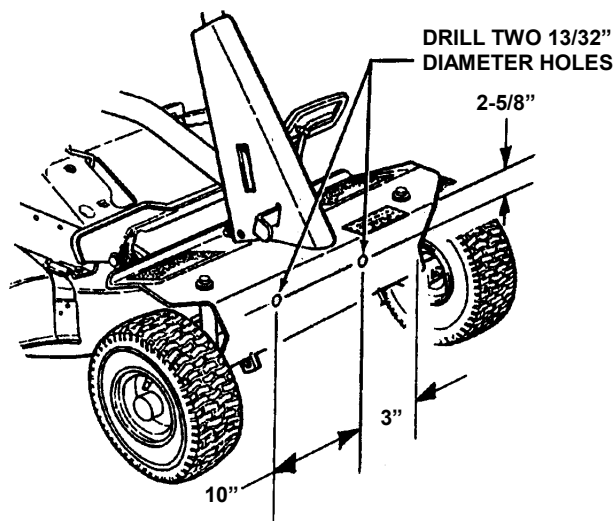

FIGURE 1.11
**IMPORTANT – “M” SERIES RIDERS:** Series 17, “M” model riders will require the drilling of two holes in the front frame to install the Front Weight. Series 19, “M” model riders already have the holes drilled but are covered by the SNAPPER decal. Holes can be located by rubbing lightly over decal. If you have a Series 17 rider, use the dimensions on the illustration provided to mark the locations for drilling the two holes. See Figure 1.11.